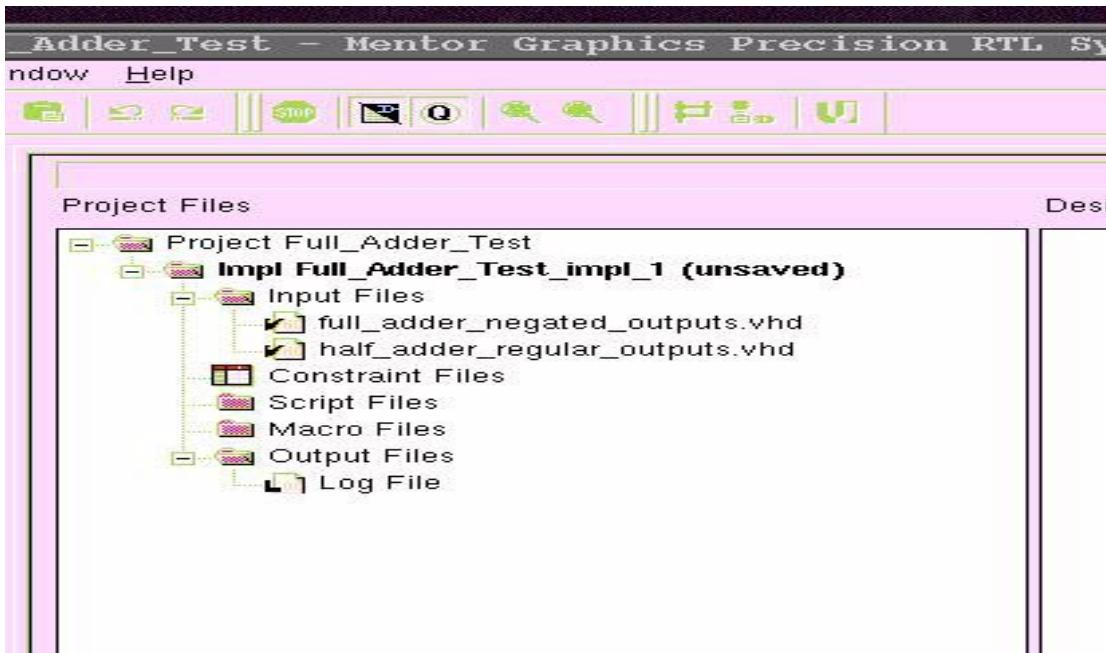

Figure 13: Project files pane of the main Precision window indicating added files.
(6) Repeat the above procedure to **add the half_adder_regular_outputs.vhd file**. You will now see that the files you specified are listed in the Project files pane of the main window as shown in Figure 13.